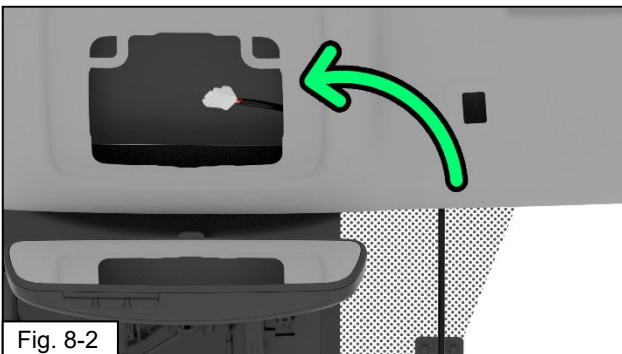

Fig. 8-2
- (b) Route the Dashcam pigtail through the headliner to the map light console area. (Fig. 8-2)